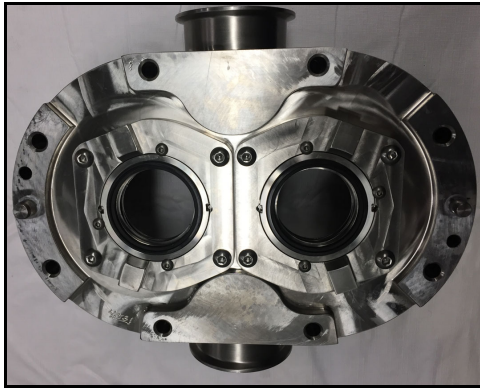

Figure 100 - Seals installed
20. Figure 100 shows both seals installed.